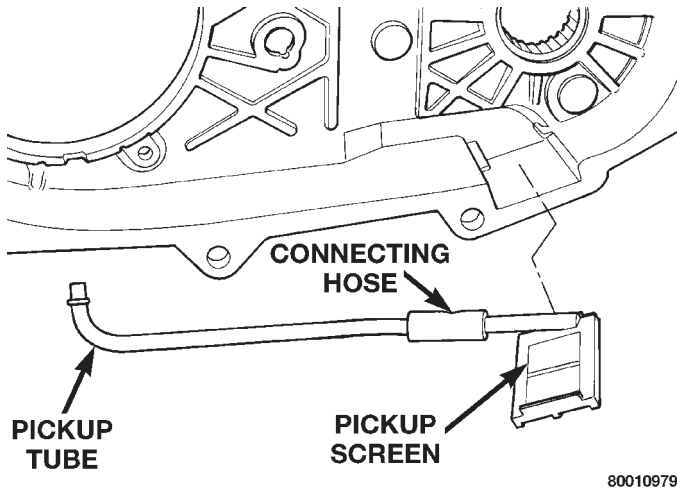

Fig. 20 Oil Pickup Screen, Hose And Tube Removal
- (14) Remove oil pickup tube and screen from rear case (Fig. 20).